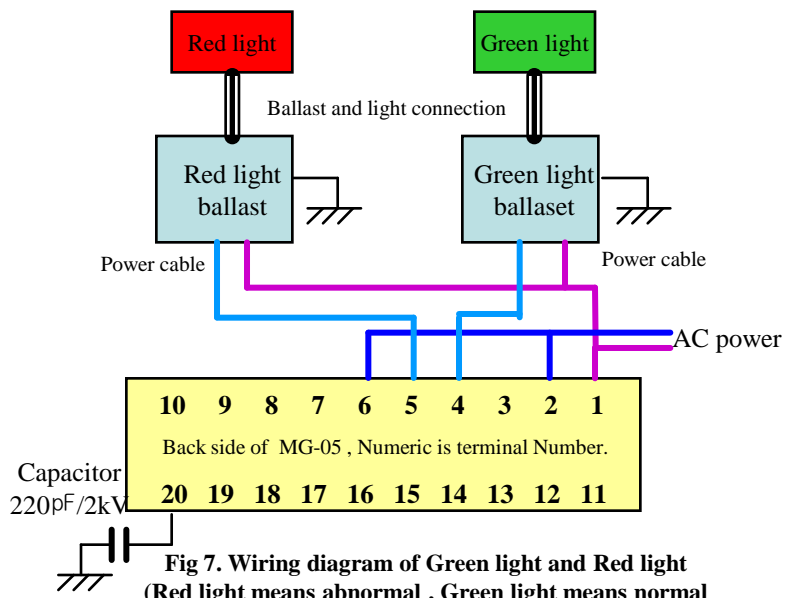

Fig 7. Wiring diagram of Green light and Red light (Red light means abnormal, Green light means normal)
- b. Relay output terminal is (#4 ~#5), Voltage output terminal is #7 and #8, current output terminal is #9 and #10. Please turn off the indicator before connect output signal cable. If you want to use relay output please use with #6 and #5 (N/O, Normal open, in normal case the terminal status is open, but if the signal is ON, the terminal will be closed. OR #6 and #4 (N/C, Normal Close, in normal case the terminal status is close, but if the signal is ON, the terminal will be Open). In normal status the relay will contact #6 and #4 and In abnormal status the relay will close #6 and #5. If you use large capacity ballast, please use capacitor (220pF/2kV) as Fig7.